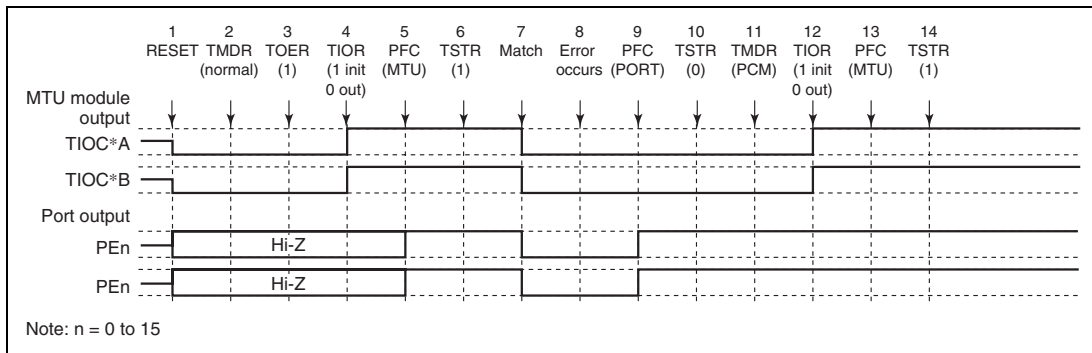

Figure 8.87 Error Occurrence in Normal Mode, Recovery in Phase Counting Mode
(4) Operation when Error Occurs during Normal Mode Operation, and Operation is Restarted in Phase Counting Mode: Figure 8.87 shows an explanatory diagram of the case where an error occurs in normal mode and operation is restarted in phase counting mode after re-setting.